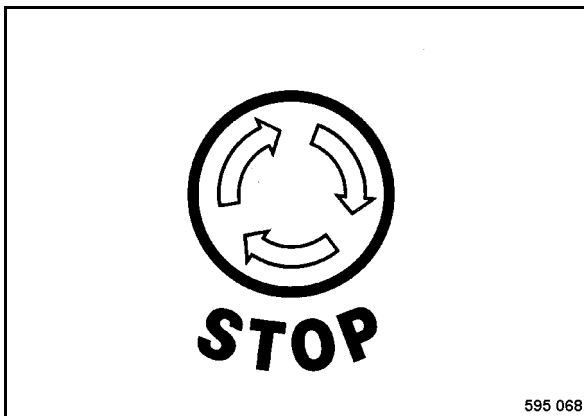

Fig. 67
- Press the button of the emergency stop switch (Fig. 67) completely down, it automatically locks in fully pressed position.